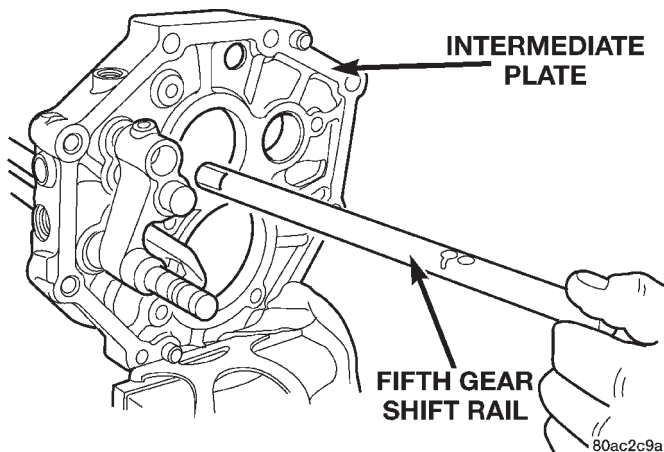

Fig. 67 Remove Fifth Gear Shift Rail
- (23) Remove fifth gear shift rail (Fig. 67).